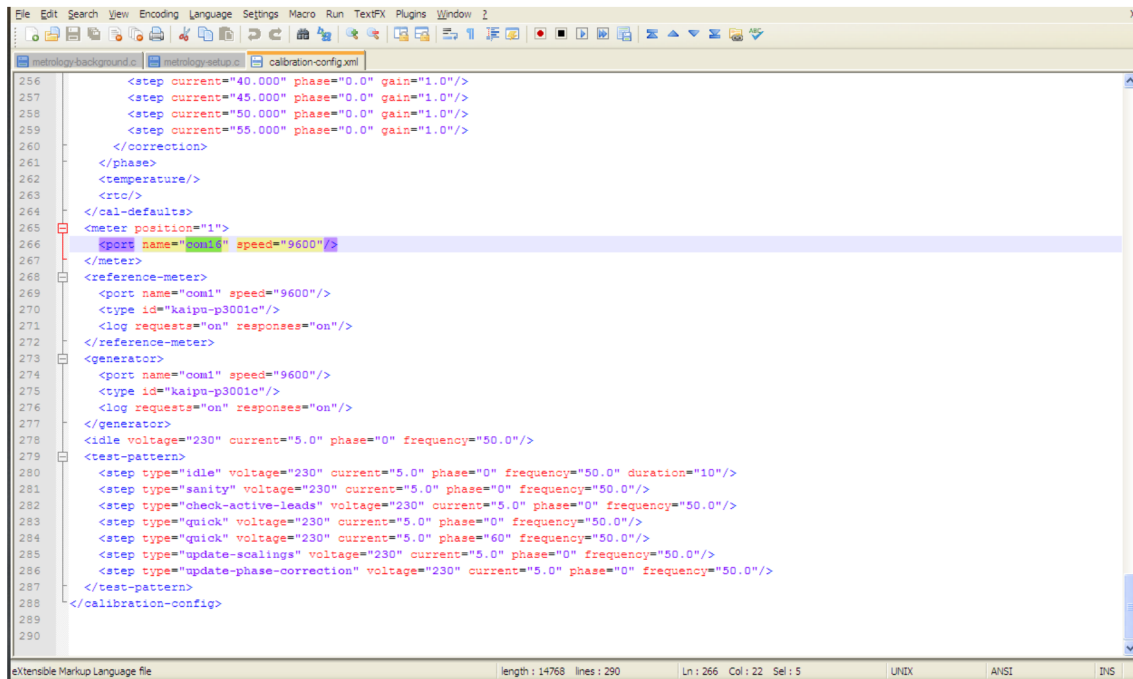

Figure 14. Editing “calibration-config.xml”
4. Open “calibration-config.xml” in the folder “calibrator-runtime” with a text editor or XML editor. Go to the line shown in Figure 14 and put in the COM port number in and save the file.